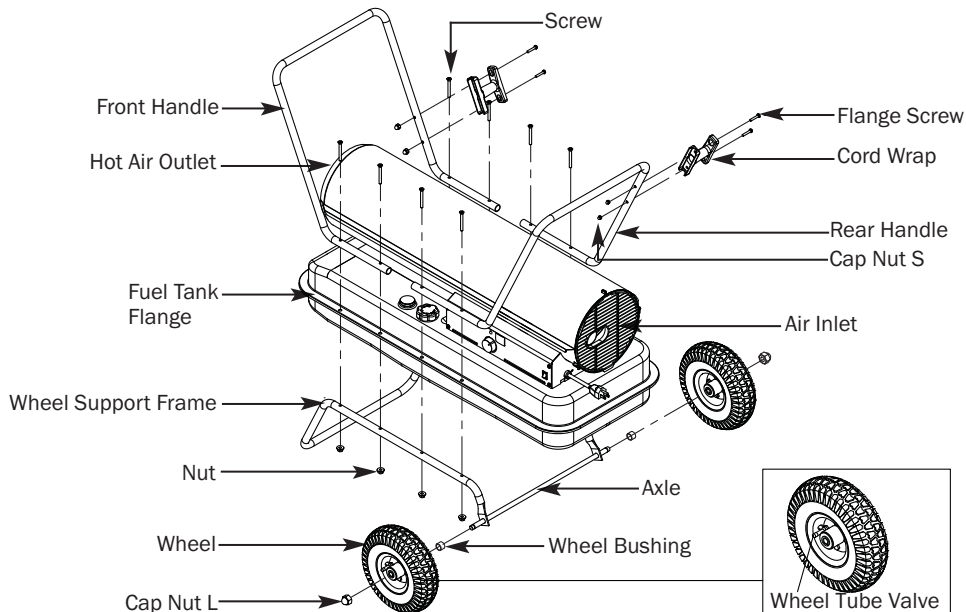

Figure 3 - Assembly
NOTE : When installing wheels, tube valve should face out from support frame (Figure 3).
4. Place heater on wheel support frame. Make sure the air inlet end (rear) of heater is over wheels. Align the holes on fuel tank flange. Insert screws through handles (front and rear), fuel tank flange, and wheel support frame as shown in Figure 3 and attach nut finger tight after each screw is inserted.